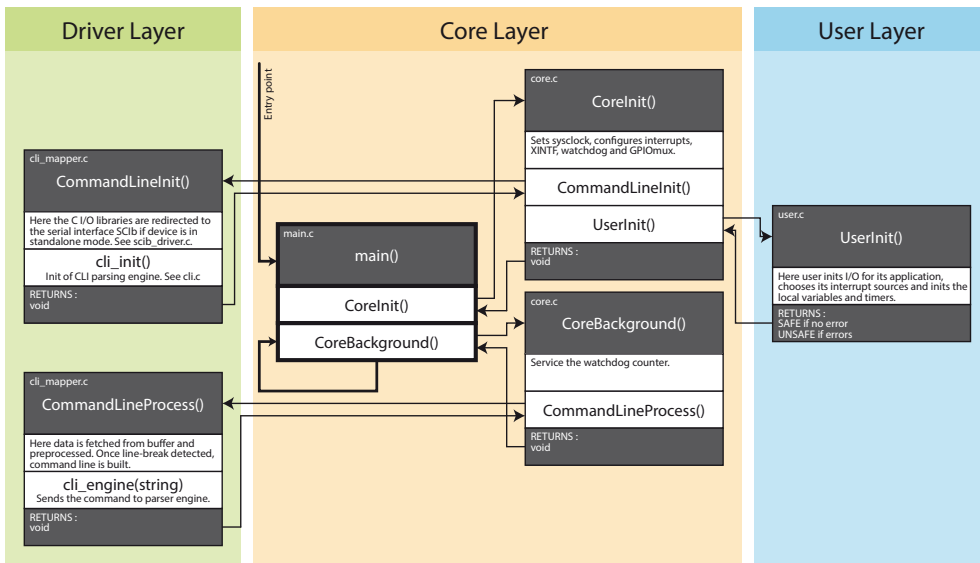

Fig. 15. Initialization process of the BoomBox.
- 1) At startup, it is initially set in **BLOCKED** state through the **CoreInit()** routine. This routine calls **UserInit()** in order for the user to activate his own initialization procedures. The complete initialization procedure is depicted in Fig. 15.